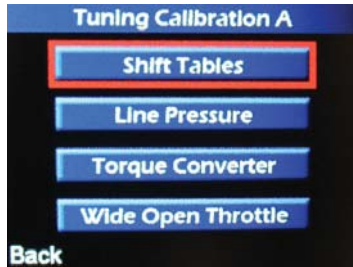

Figure 9
- To alter, select "SHIFT TABLES" using the "UP" and "DOWN" arrow buttons and press the "OK" button (Figure 9).